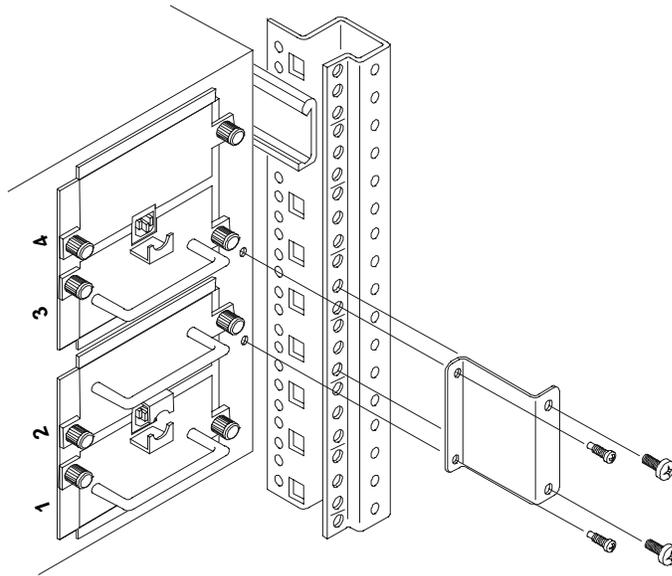

Figure 8-18. Attaching the Z-bracket to the HP NetServer and Rear Column
1. Attach the Z-brackets to the rear columns with two Torx screws, using the Torx T-25 driver. Fasten the bracket to the HP NetServer with two Torx screws (see Figure 8-18).